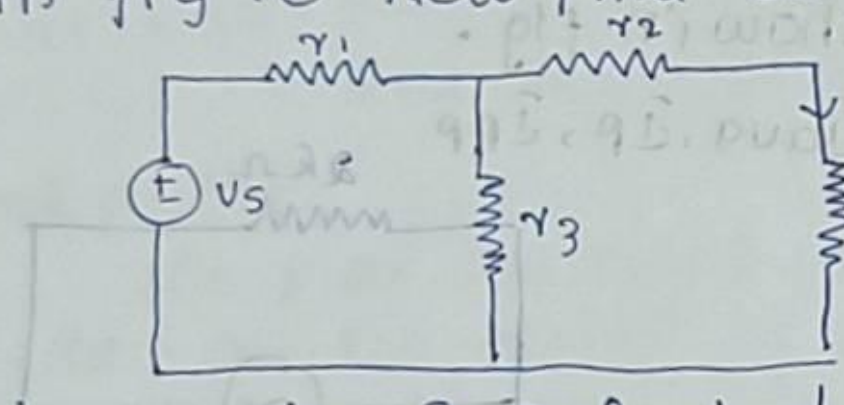

fig 1(a) A simple d.c circuit
1. Let us consider a simple d.c circuit as shown in fig 1(a). Now find 'iL' by Thevenin's Theorem
2. In order to find the voltage source, rL is removed shown in fig 1(b) and vo.c is calculated.